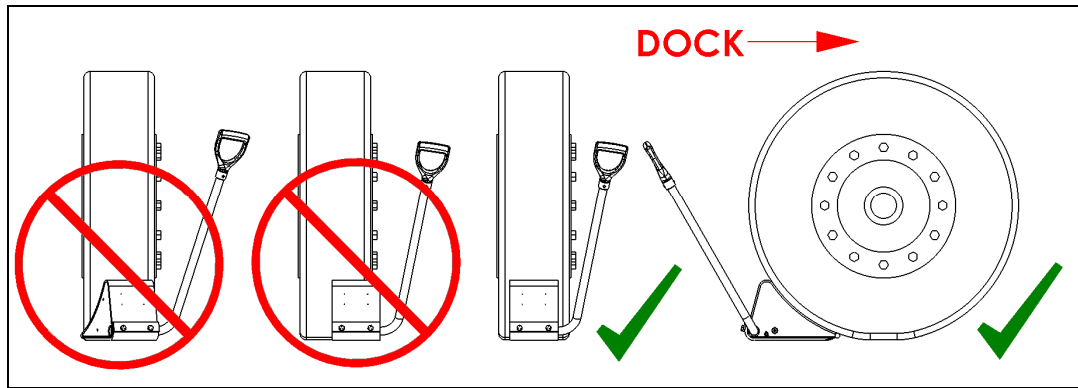

Figure 3: Dok-Chock™ Positioning: Chock must be centered, square, and tight against front of Tire
7. Always position the Dok-Chock™ firmly and squarely against the front center of the truck tire, as illustrated in Figure 3 below. Improper positioning decreases the wheel chock's effectiveness.